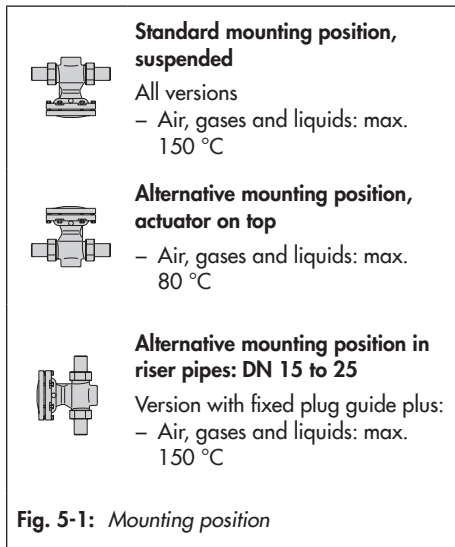

Fig. 5-1: Mounting position
- Standard mounting position: install the actuator housing suspended downward in horizontal pipelines (see Fig. 5-1).
- Alternative mounting position (**DN 15 to 25**): install the actuator housing pointing to the side in horizontal pipelines (see Fig. 5-1).